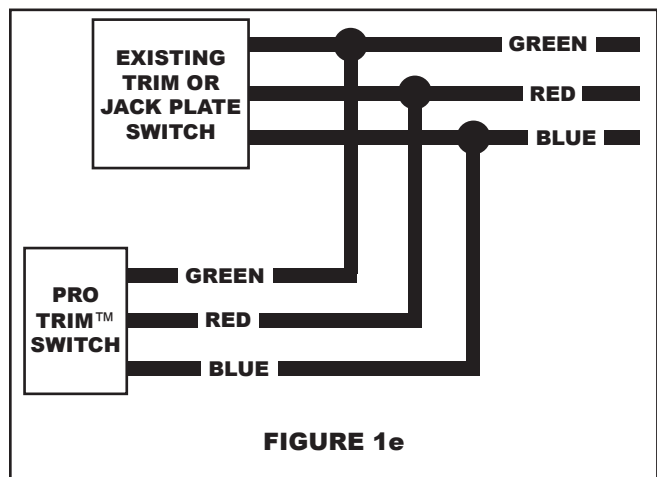

FIGURE 1e
Step 4. Make the wire connections as shown in figure 1e. When cutting into the boat's trim or jack plate wiring, cut only one wire at a time. Strip both cut ends. Using a butt connector, put these two wires into one end of the connector and the appropriate color switch wire into the other end of the connector. Note: Be sure that the connector will accept (1) 16 gauge wire on one end and (2) 16 gauge wires on the other. Follow this same procedure (one wire at a time) for the remaining wires.